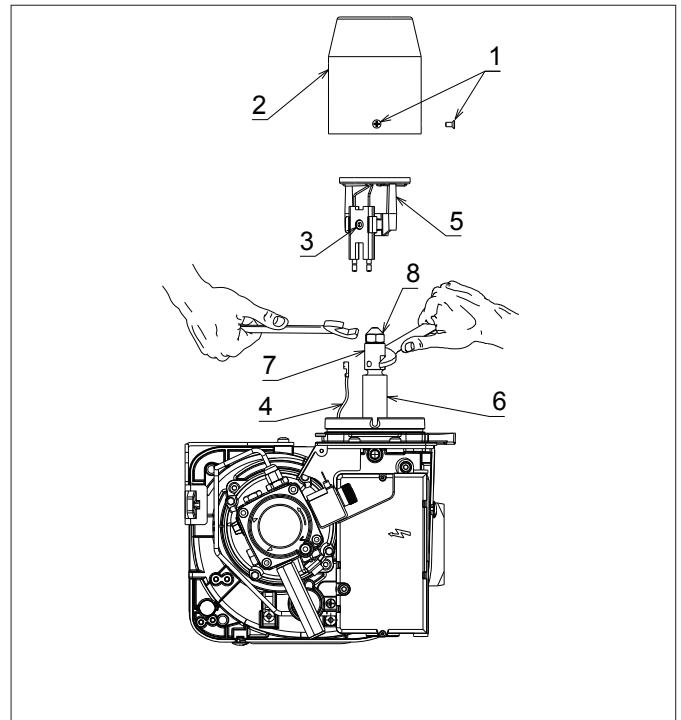
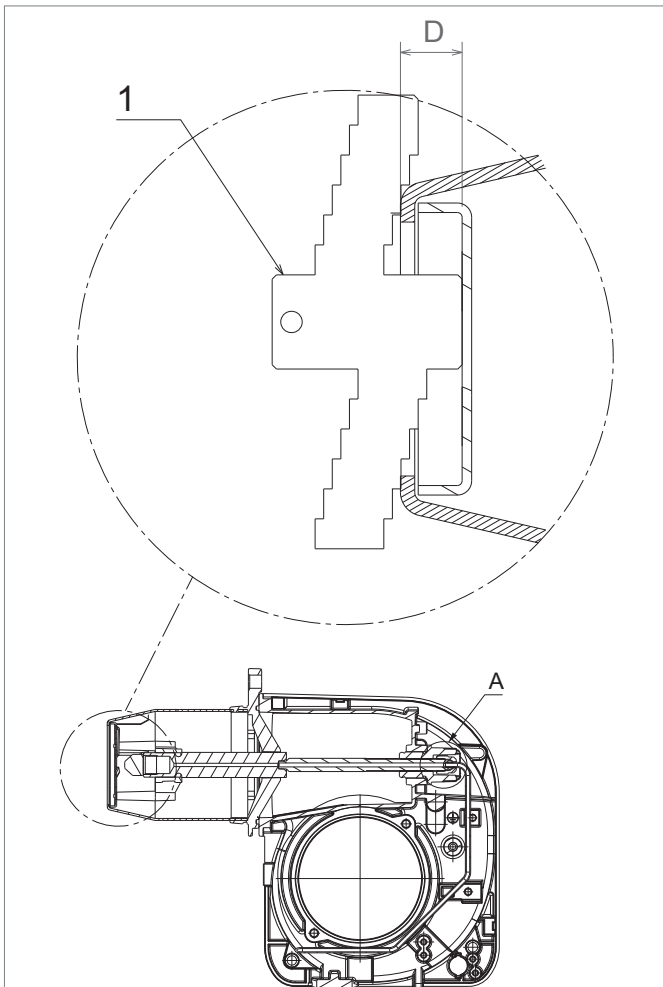

Figure 10-3: Burner head, recirculation tube (if fitted) diffuser and nozzle holder
Figure 10-5: Riello RDB 2.2 BX diffuser position and gauge plate
4. Remove the burner head. Refer to Figure 10-3. Loosen the three fixing screws (1) and remove head (2) from burner.
6. If the nozzle needs to be replaced - remove the diffuser/ electrode assembly. Refer to Figure 10-3.
- Using a 4 mm Allen key, loosen the diffuser fixing screw (3) on the electrode assembly.
- Lift diffuser/electrode assembly (5) up and off the nozzle holder.
- Disconnect both ignition leads (4) from the electrodes.
7. Use a 16 mm spanner to remove/re-fit the nozzle (8), whilst holding the nozzle holder (6) using a 19 mm spanner.
8. Re-fit the diffuser/electrode assembly. Refer to Figure 10-3.
- Reconnect ignition leads (4) to electrodes.
- Re-fit the diffuser/electrode assembly (5) onto the nozzle holder lining up the fixing screw with the recess in the nozzle holder.
- Tighten the fixing screw (3) to secure the diffuser/ electrode assembly in place on the nozzle holder.
7. Re-fit the burner head. Refer to Figure 10-3.
- Locate the head fixing screws (1) in the countersunk slots in the burner collar.
- Tighten the three screws (1) to secure the head (2) in position on the burner.
8. Adjust the diffuser position. Refer to Figure 10-5.
- Position the gauge on the burner head as shown in Figure 10-5.
- If necessary, adjust distance D using the black adjustment knob located around the oil supply pipe on the front of the burner. Refer to Figure 10-5. Re-check distance D using the gauge plate, as described above.